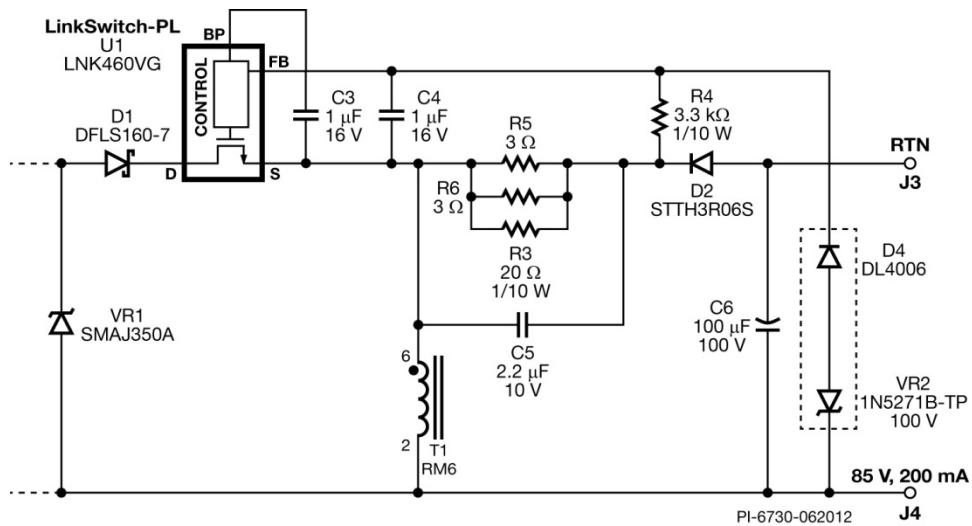

Figure 3A – Auto-Restart Overvoltage Protection with Buck-Boost Configuration.
Another option shown in Figure 3A is an auto restart overvoltage protection. Zener VR2 is connected to V_{OUT+} and in series with blocking diode D4. If a no-load condition occurs on the output of the supply, the output overvoltage Zener diode (VR2 in Figure 3A) will conduct once its threshold is reached. A voltage in excess of $V_{FB(AR)} = 2 \text{ V}$ will appear across the FEEDBACK (FB) pin, and the IC will enter auto-restart. Note: Diode D4 is not included in the PCB layout.